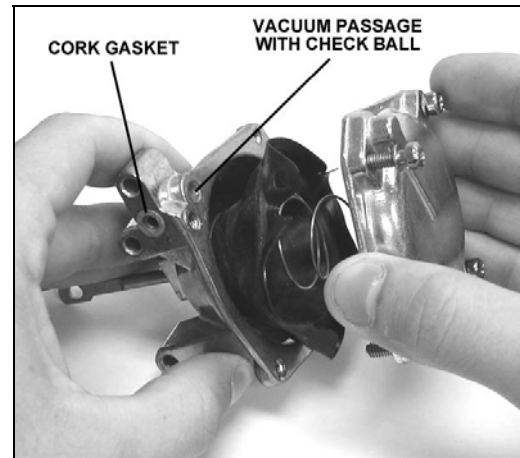

Figure 16
5. Gently remove the cover. Take care as not to tear the diaphragm or loose the check ball (Figure 16).